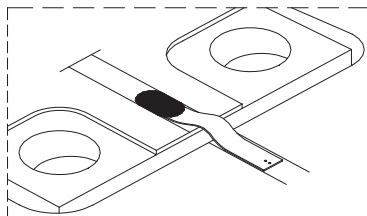

Figure 3.
1. The first method uses a gold plated copper ribbon for the interface (Figure 3). The ribbon is gap-welded to the gold trace, a small stress relief is formed, and the other end of the ribbon is soldered to the mixer trace.